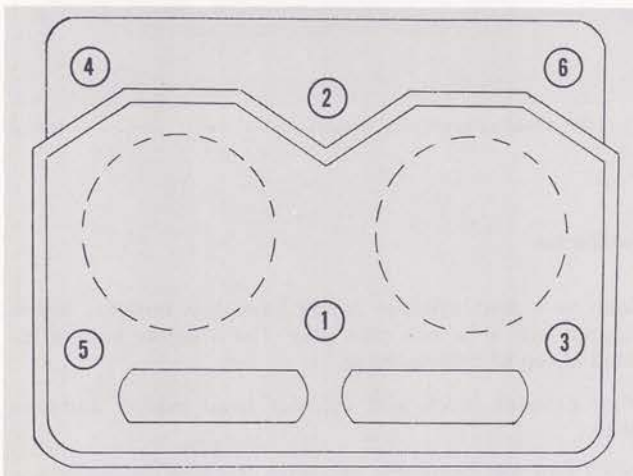

Fig. 4-14. Cylinder head capscrews tightening sequence — GNH $5\frac{1}{8}$ " bore N11426
7. Lubricate capscrews with Shell Rust Preventive — ENSIS-105 or equivalent and tighten each slightly in sequence shown in Figs. 4-14, and 4-15. Complete tightening procedure, following steps outlined in Table 4-1 or 4-2.